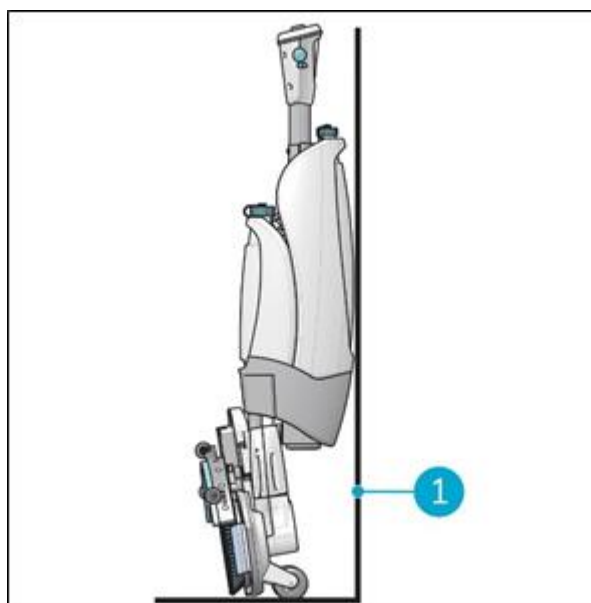

Figure 24
3. Store the i-mop XL Plus close to a wall (Figure 24, pos 1) with the handle pointing towards the wall and the brushes facing away from the wall.